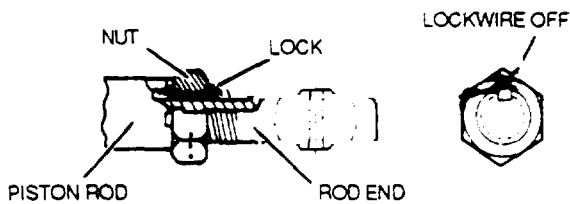

Figure 2-82. Rod End Safetying (Key Type NAS 559)
h. Rod End Safetying. Lockwire rod end (key type NAS559), as shown in figure 2-82.
(1) Breakaway torque. Breakaway torque (table 2-8) is defined as minimum torque required to start the movement of a nut on or off bolt with no axial load on the nut and with the bolt completely through the nut.
(2) Friction torque (tare, drag, run on). Friction torque is the torque required to overcome the internal friction between a self-locking nut and bolt as the nut is being turned on the bolt, but before the nut contacts the washer (no axial load).
(3) Final torque. Final torque is the sum of the friction torque plus the applicable torque values from table 2-9 or friction torque plus torque from the applicable maintenance manual.
(4) Break-loose torque. Break-loose torque is defined as the effort to break loose an axially loaded nut.